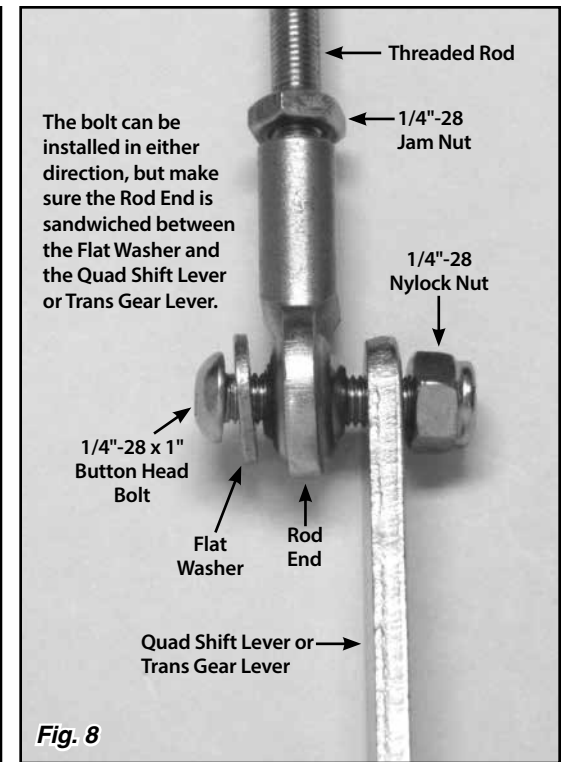
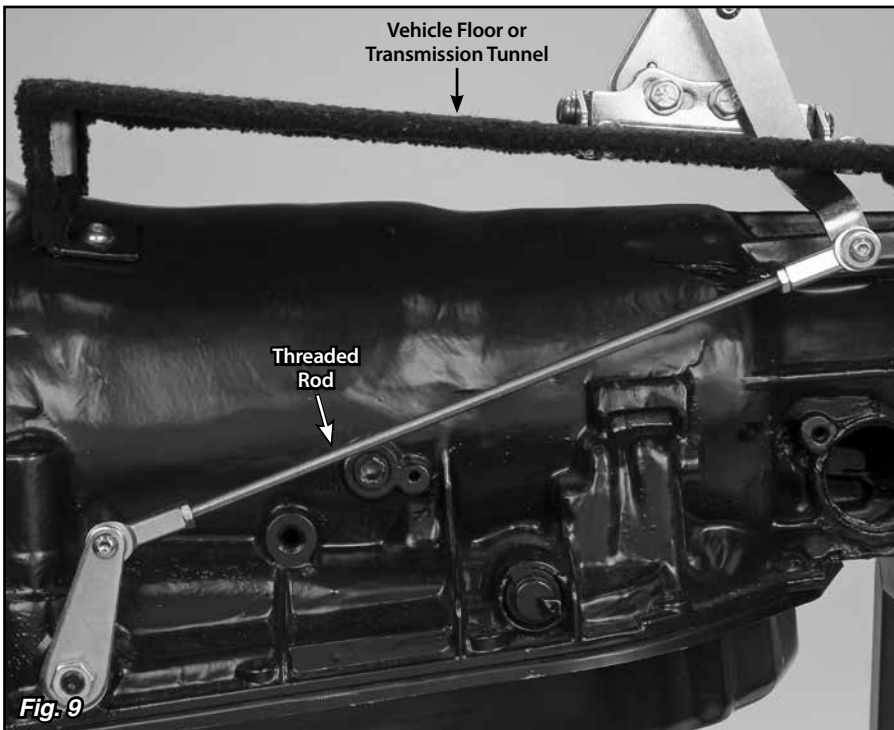

Fig. 8
Fig. 9
Step 12: Make sure that two 1/4"-28 jam nuts are installed on the threaded rod, one at each end. Install a rod end onto each end of the threaded rod. Position the rod ends on the inside or outside of the quad shift lever and trans gear lever so that the threaded rod is as straight as possible. Attach the threaded rod assembly to the quad shift lever and trans gear lever using the 1/4"-28 x 1" button head bolts, flat washers, and nylock nuts as shown in **Fig. 8**. The button head bolts can be installed from either direction, but make sure the rod ends are sandwiched between the flat washers and the quad shift lever or trans gear lever. **Fig. 9**